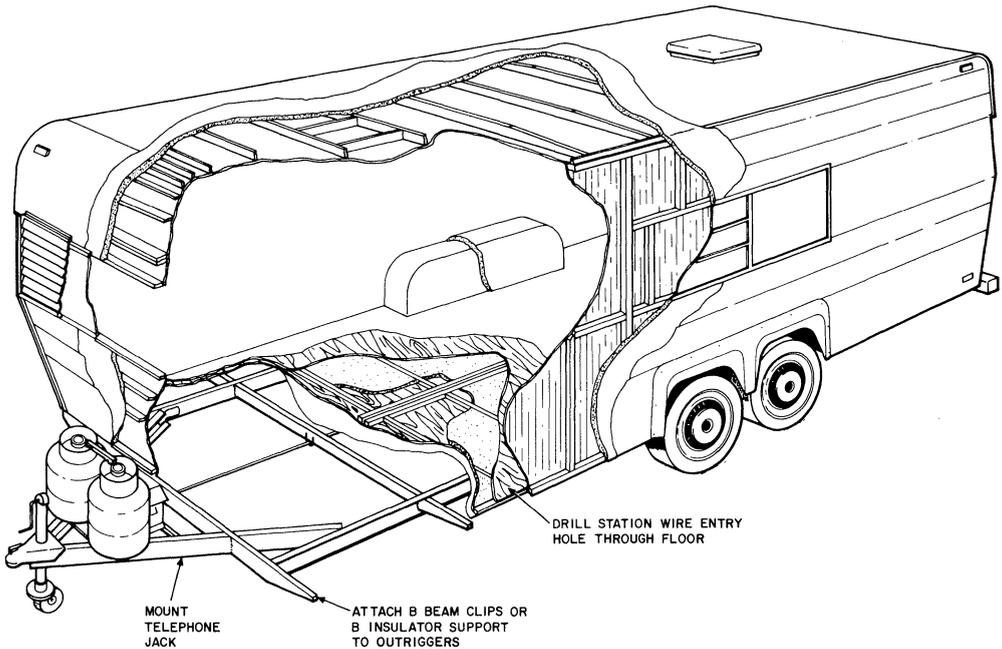

Fig. 16—Typical Recreational Trailer Construction
3.04 The B outlet box and B mounting bracket should be mounted on the vehicle by the installer using the mounting holes provided by the customer. For trailers the customer will use the C template to drill holes for the mounting bracket on top of the vehicle hitch as close to vehicle as possible. The box should be mounted on the same side as the other utilities with the jack on the outside (Fig. 16 and 17A). For truck campers and motor homes, the customer will use the template to drill holes on the left side of the rear bumper (see Fig. 17B). The outlet box should be mounted so that it does not extend beyond the edge of the bumper. The cord grip assembly may be attached to either end depending on existing space. The telephone installer will wire from the connecting block or the telephone set in the vehicle to the B outlet box on the trailer hitch or bumper. The bonding lead provided with the bracket must be